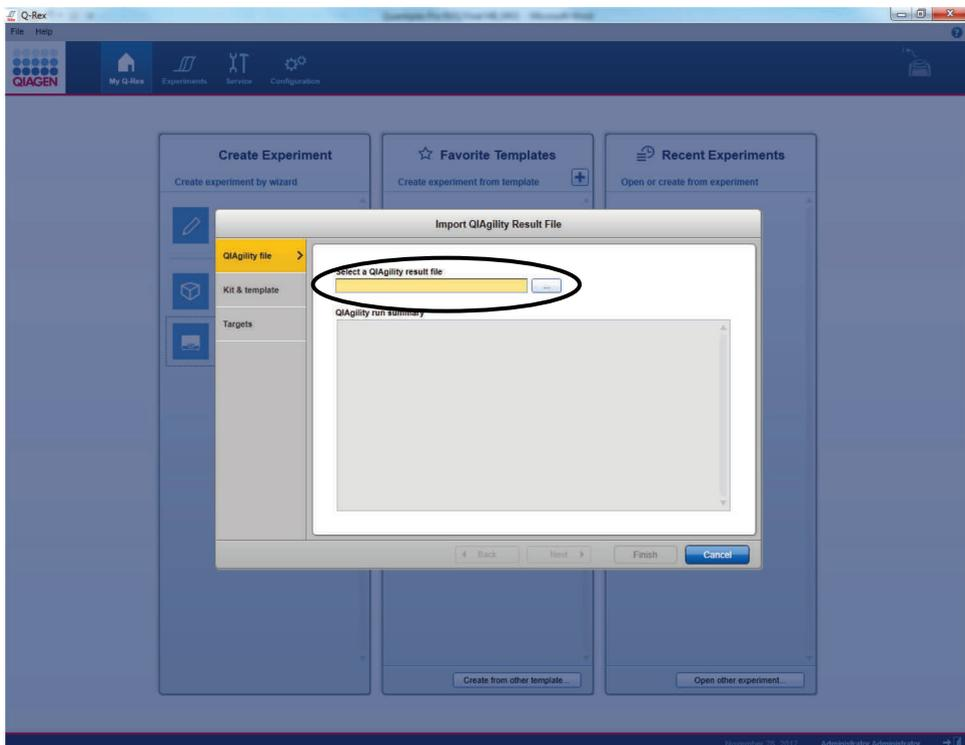

Figure 17. Selecting the Quant Batch file.
26. Select the Quant Batch file created in step 23 (Figure 17).